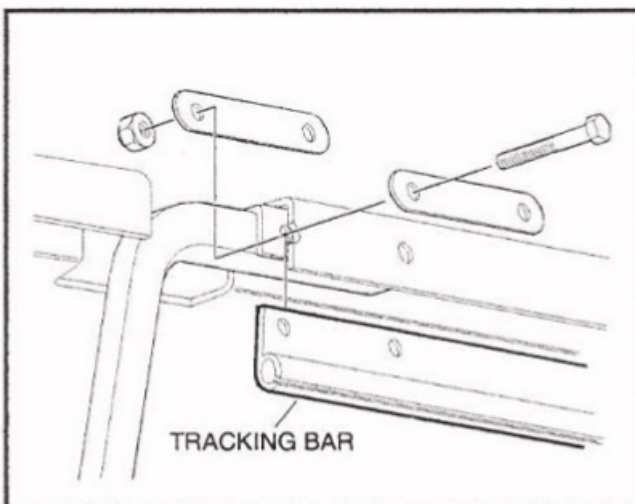

Figure 2 Mount the Tracking Bar—Separate Seat Back Design
- 1.2. Slide the tracking bar between the canopy supports and canopy (**Figure 2**). Align the holes in the tracking bar with the holes in the canopy.
- 1.3. With canopy trim plates on the outside and inside of the canopy as shown, secure the rear braces to the canopy with the hardware removed in Step 1.1. Tighten hardware to 45 in-lb (5.1 N-m) (**Figure 2**).